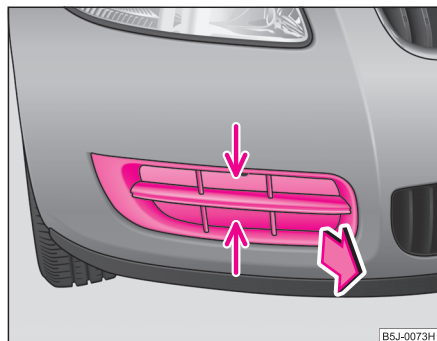

Fig. 163 Front bumper:
- Grasp the protective grille at the point marked with the arrow and take it out ⇒ fig. 163.